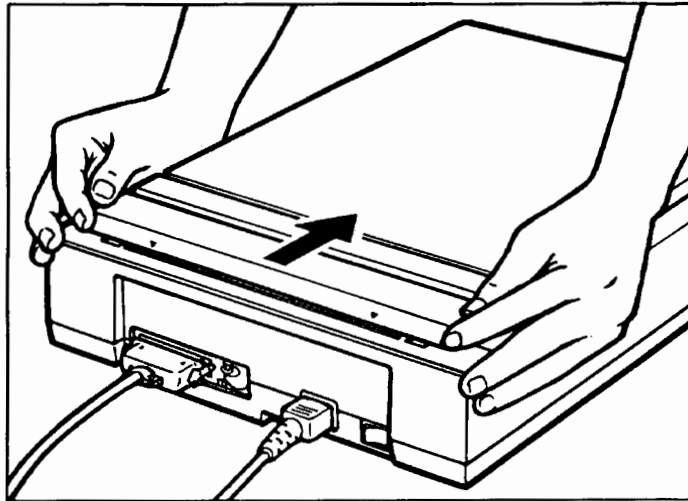

Figure C-3. Removing the Copyboard Cover
2. Remove the copyboard cover by sliding it toward the front of the scanner. See figure C-3.